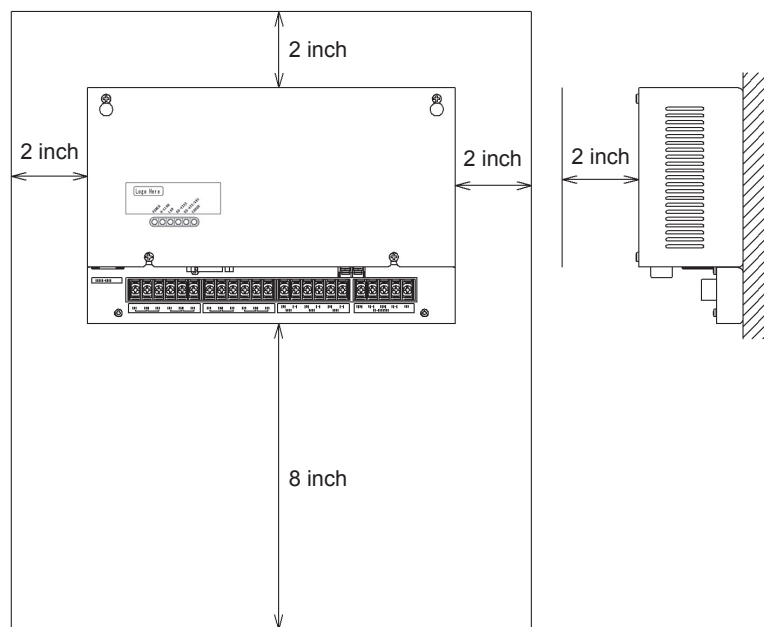

Fig. 6.1 Installation Space
- (1) Clear the installation space for the CCA01 as shown in Fig. 6.1.